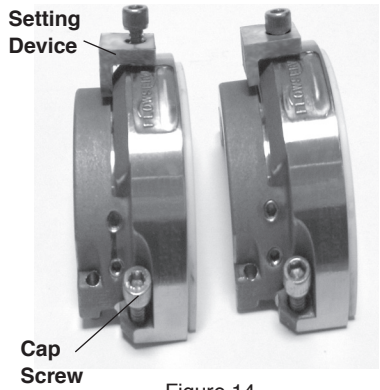

Figure 14
- 6.1 Place the setting device over the locating hole and secure with the cap screw. See Figure 14.